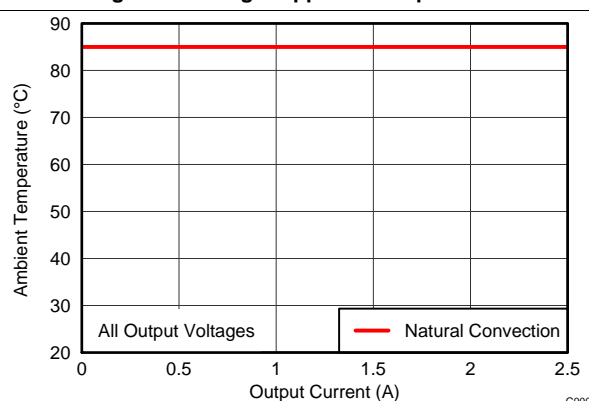

Figure 10. Safe Operating Area
- (3) The temperature derating curves represent the conditions at which internal components are at or below the manufacturer's maximum operating temperatures. Derating limits apply to devices soldered directly to a 100 mm × 100 mm double-sided PCB with 1 oz. copper. Applies to Figure 10.